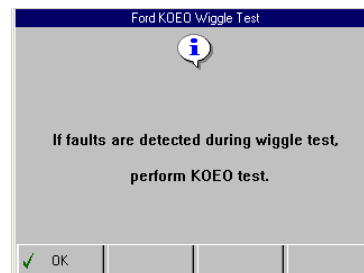

Figure 6.18: Wiggle Test Instruction Screen
- 5 Press the **ENTER** key. This displays an instruction screen (Figure 6.18 on page 32).